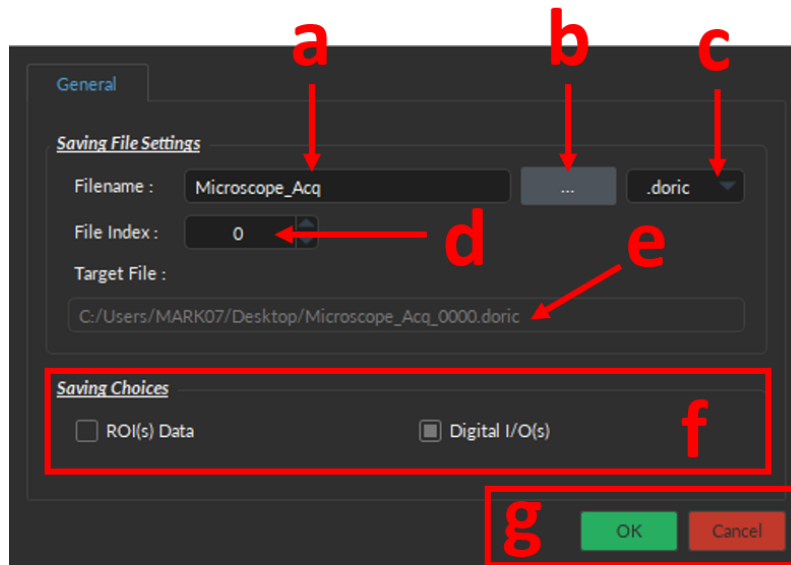

Figure 5.13: Saving Options Window
7. The **Saving options** button opens the **Saving options window** (Fig 5.13).
- a) The **Filename** box (Fig. 5.13) is used to define the recorded file name.
- b) The **...** button (Fig. 5.13) opens a window used to choose the save file location.
- c) The **File type** drop-down menu (Fig. 5.13) is used to decide which file type is used to save images. For files larger than 4 GB, the .doric extension is recommended.
- d) The **Index** box (Fig. 5.13) displays the current index that will be added to the filename.
- e) The **Target File** box (Fig. 5.13) shows the full location and name of the file being saved when an image sequence is recorded.